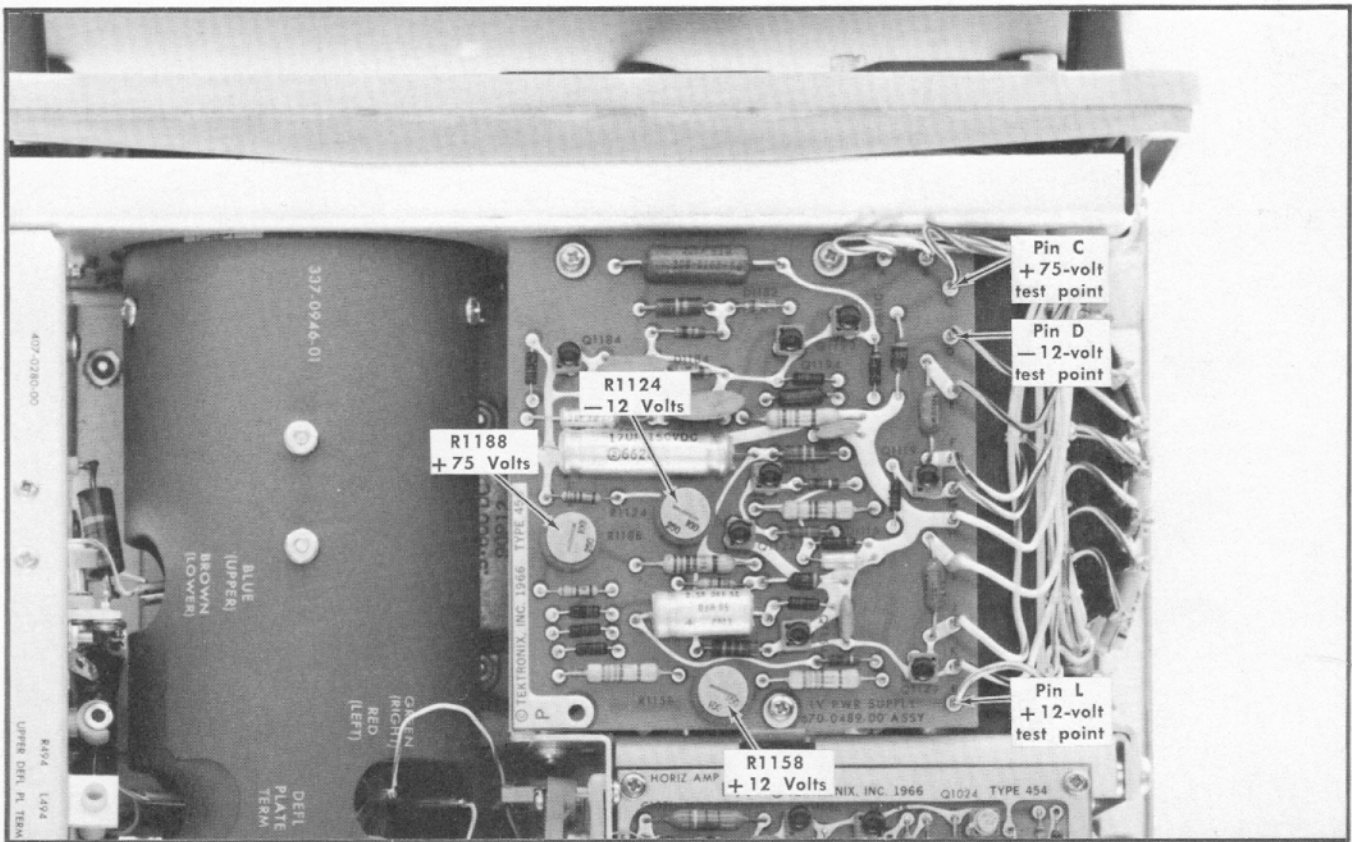

Fig. 6-4. Low-voltage power supply test points and adjustments (Low-Voltage Regulator circuit board).
- b. Connect the precision DC voltmeter from the —12-volt test point (pin connector 'D', Low-Voltage Regulator board; see Fig. 6-4) to chassis ground.
- d. ADJUST— —12 Volts adjustment, R1124 (see Fig. 6-4), for —12 volts.
d. ADJUST—+12 Volts adjustment, R1158 (see Fig. 6-4), for +1 volt.
f. Connect the precision DC voltmeter from the +12-volt test point (pin connector 'L', Low-Voltage Regulator board; see Fig. 6-4) to chassis ground.
3. Adjust +75-Volt Power Supply ①
a. Connect the precision DC voltmeter from the +75-volt test point (pin connector 'C', Low-Voltage Regulator board; see Fig. 6-4) to chassis ground.
c. ADJUST—+75 Volts adjustment, R1188 (see Fig. 6-4), for +75 volts.
d. CHECK—Two millivolts (0.4 division) peak-to-peak maximum line-frequency ripple on the -12 -volt, $+12$ -volt and $+75$ -volt supplies while changing the autotransformer output voltage throughout the regulating range selected by the Line Voltage Selector assembly on the rear panel. Power-supply test points are shown in Fig. 6-4. Fig. 6-9 shows a typical test oscilloscope display of ripple.